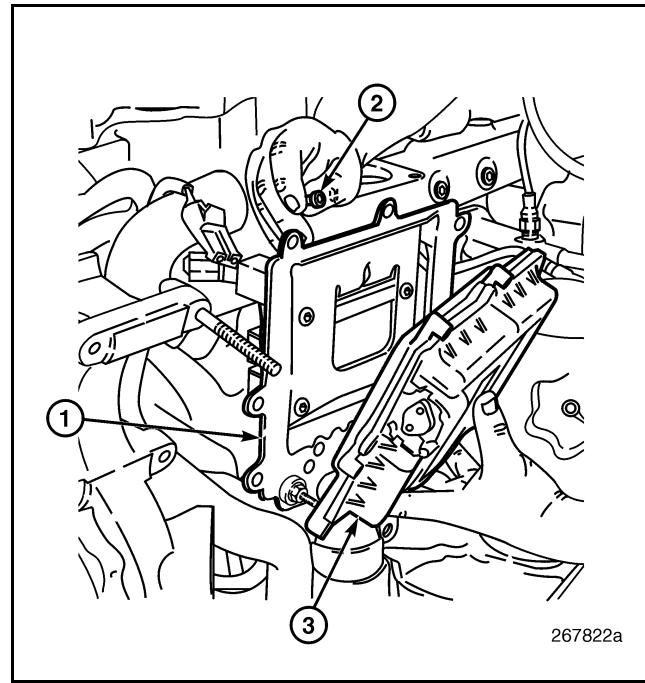

Figure 436 — EECU Installation
7. Make sure the cooling plate and EECU mating surfaces are clean. Place the EECU in position on the cooling plate and install the eight retaining bolts. Tighten the bolts to specification (Figure 436).